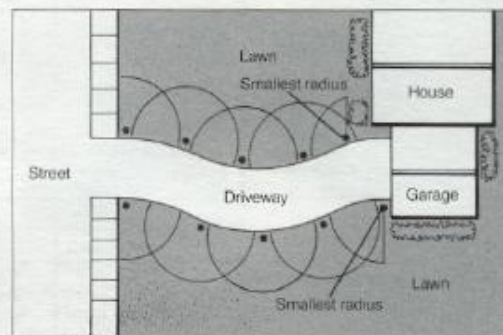

Figure 6: Non rectangular areas.
1. Pick the spot on the perimeter with the smallest radius as shown in Figure 6.